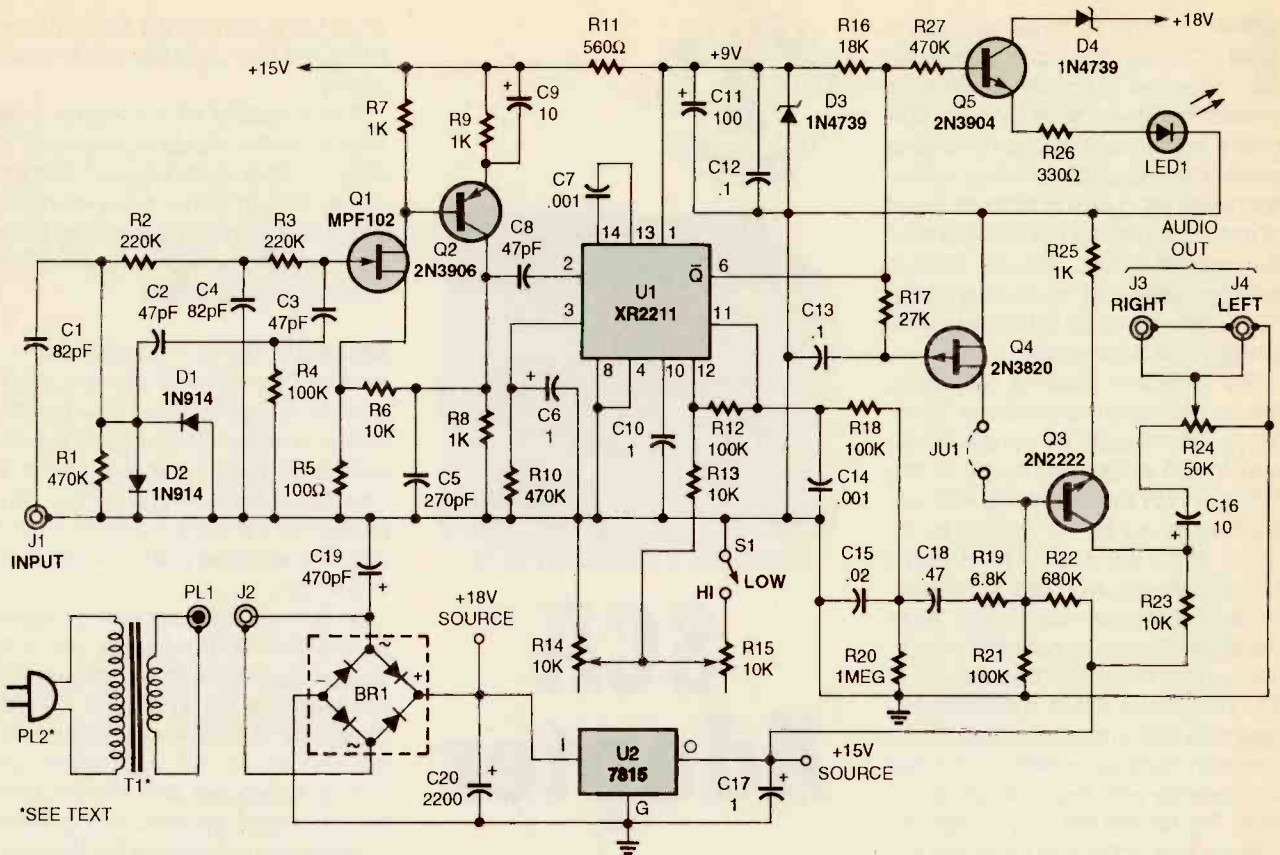

Fig. 1. This SCA adapter is built around an XR2211 FSK demodulator, some transistors, and a handful of support components.
**About the Circuit.** A schematic diagram for the SCA Adapter is shown in Fig. 1. The circuit, for the most part, is comprised of seven active elements: five assorted transistors and two IC's. The 67- or 90-kHz subcarrier signal is picked off the FM tuner (more on that later) as the input to the circuit. After passing through a parallel-T network, the signal is applied to the input of a two-stage amplifier comprised of Q1 and Q2. That amplifier boosts the signal's strength by about 20 dB before it is applied to the input of U1 (an XR2211CP FSK demodulator/tone decoder) at pin 2. That chip contains a phase-locked loop or PLL (which in its most basic form is comprised of a phase comparator, low-pass filter, and a voltage-controlled oscillator or VCO), a quadrature phase detector
**The Transmitter Circuit.** The transmitter for the Wireless Headphone (see Fig. 1) consists of a pair of infrared LED's and a CD4046 CMOS phase-locked loop (or PLL, which is comprised of two phase comparators, a voltage-controlled oscillator or VCO, a source follower, and a Zener reference)—coupled with a driver transistor. Note that in this application, only the PLL's VCO is used.
Fig. 1. The transmitter for the Wireless Headphone is built around a CD4046 CMOS phase-locked loop or PLL, coupled with a driver transistor, and a pair of infrared LED's. Although the CD4046 is comprised of two phase comparators, a voltage-controlled oscillator (or VCO), a source follower, and a Zener reference, only its VCO is used in this application.